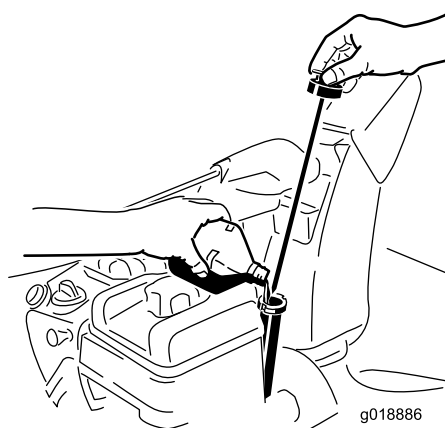

Figure 35
2. Remove the dipstick and check the oil level (Figure 35). If the oil level is below the Add mark on the dipstick, add oil. Refer to Filling the Engine with Oil.